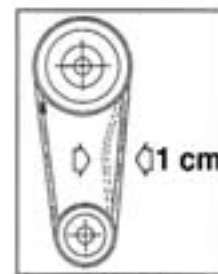
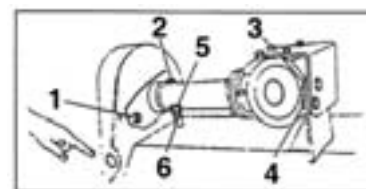

Fig. 8
Fig. 9
1. Check belt tension before each use (Fig. 8). The tension is correct when you can depress one belt 1 cm ( $3/8$ " ) between the two pulleys. It is possible for you to insert a tool through the belt cover (Fig. 9), with shredder stopped, to check the tension.
2. To adjust the belt tension, loosen bolts 1, 2, 3, & 4 and locknut 6 (Fig. 9). To adjust tension, move bolt 5. Do not forget to tighten all bolts after correct belt tension is achieved. If a belt requires replacement, replace all other belts as well.